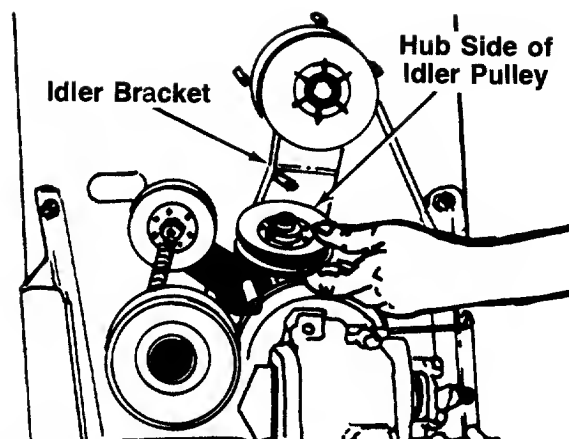

FIGURE 34.
10. Upon reassembly of idler pulley, be certain the hub side of idler goes against the idler bracket. See figure 34.